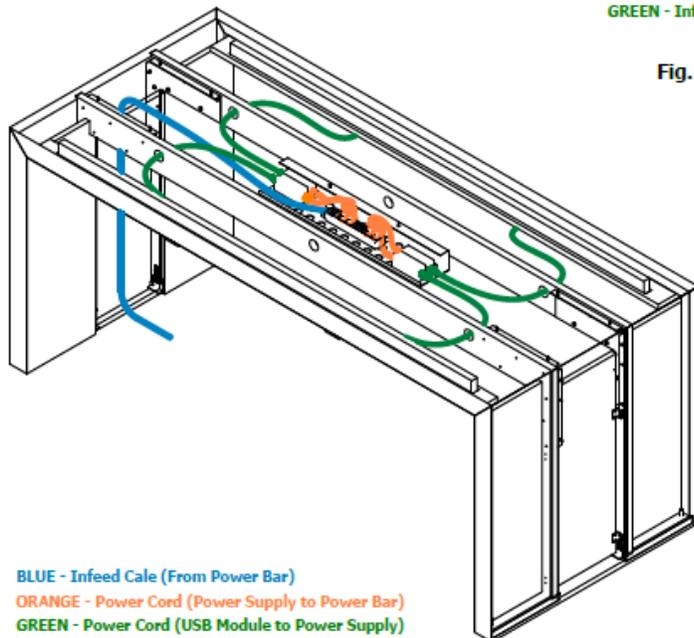

Fig. 14: Undermount USB-A\C 36W Cable Management
- 5.1.2 Cable management of Tabletop AC And USB-A\C 60W Charging, See Figure 14.